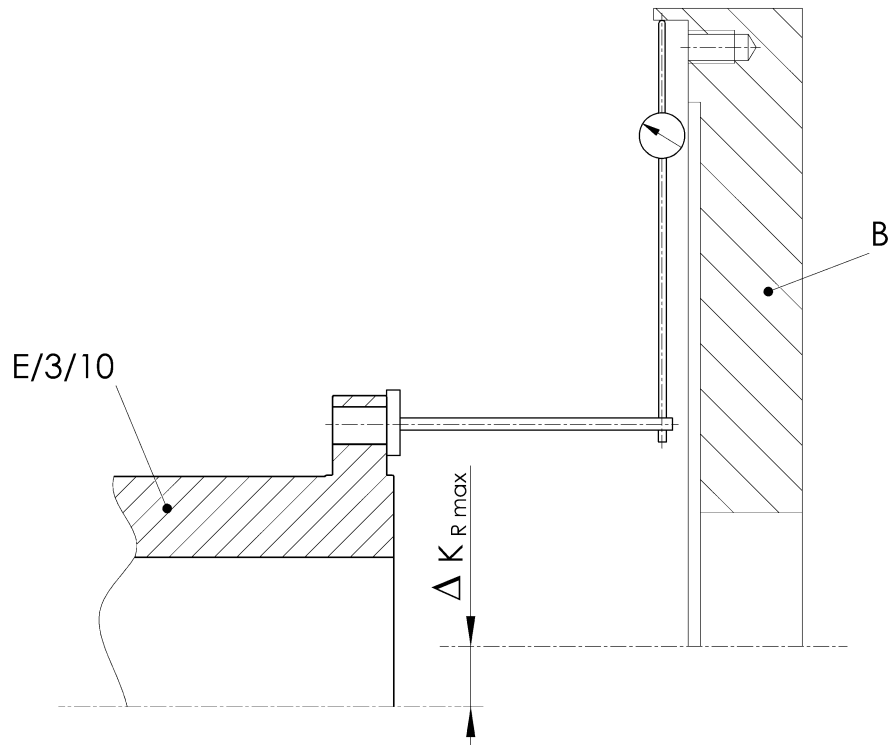

Fig. 5-2 Radial misalignment
- Measure the radial misalignment with a dial gauge (see Fig. 5-2)
- Turn the flange/hub/adapter (E/3/10) with dial gauge and flywheel (B) slowly by 360°.